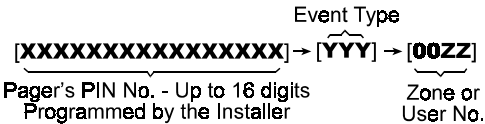

Figure 6. Pager Message Structure
- The message transmitted by the PowerMax to the pager is actually a string of digits, as exemplified in Figure 6 below.